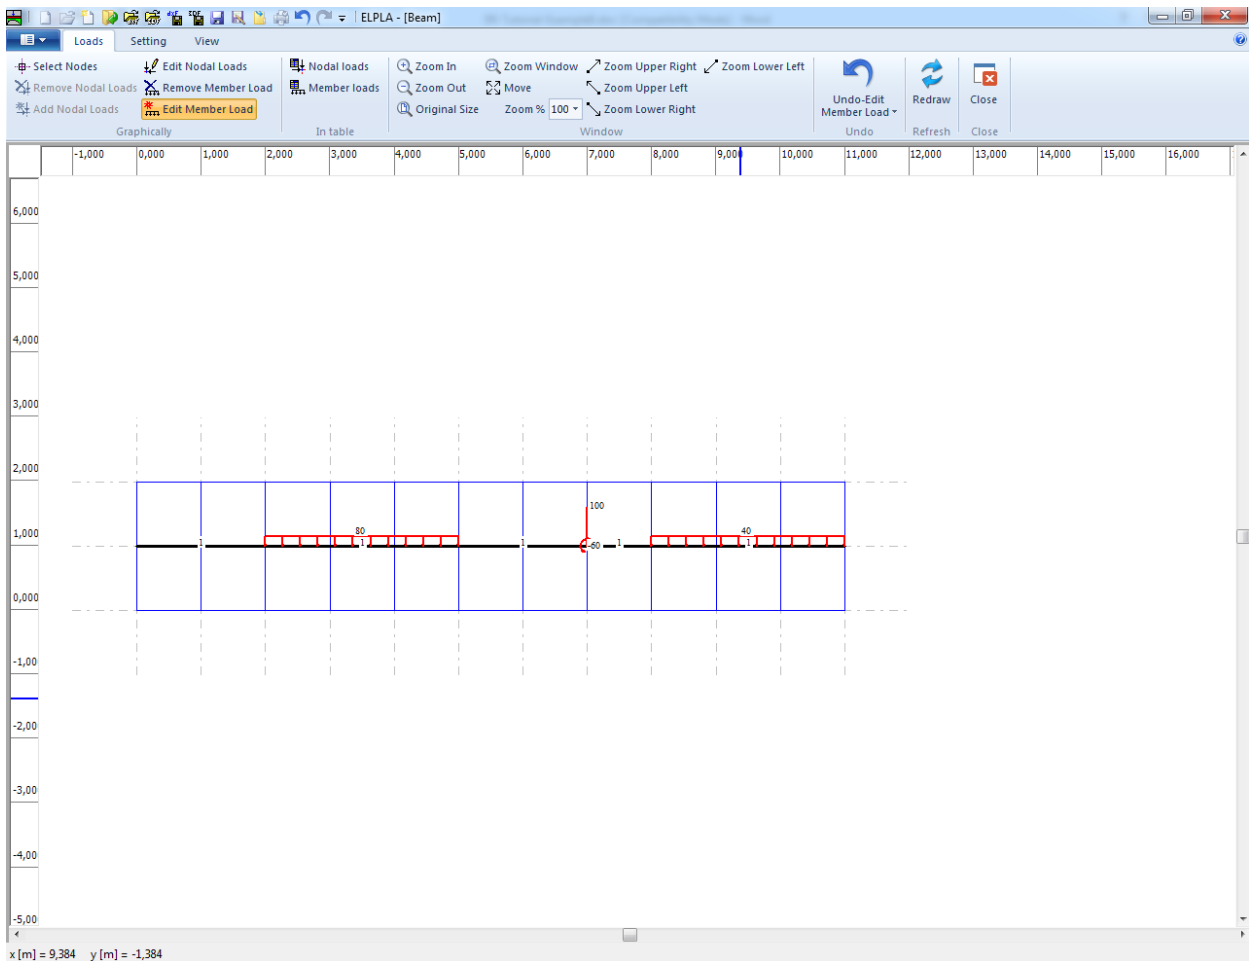

Figure 8.33 Beam loads
Use the same steps to input the uniform distributed load on the other loaded member. After you have completed the definition of the load data, the screen should look like the following Figure 8.33.
- Choose "Save" command from "File" menu in Figure 8.33 to save the load data
- Choose "Close" command from "File" menu in Figure 8.33 to close the "Loads" Window and return to *ELPLA* main window.